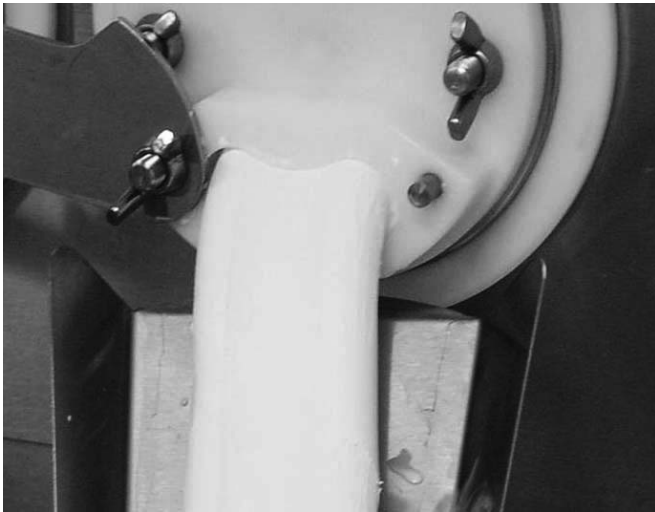

Figure 3-5 Proper Flow
- K. Adjust the flow control knob until the product flow fills the faceplate outlet and is at the desired texture (Fig. 3-5). The flow control knob setting will be different for each type of product.